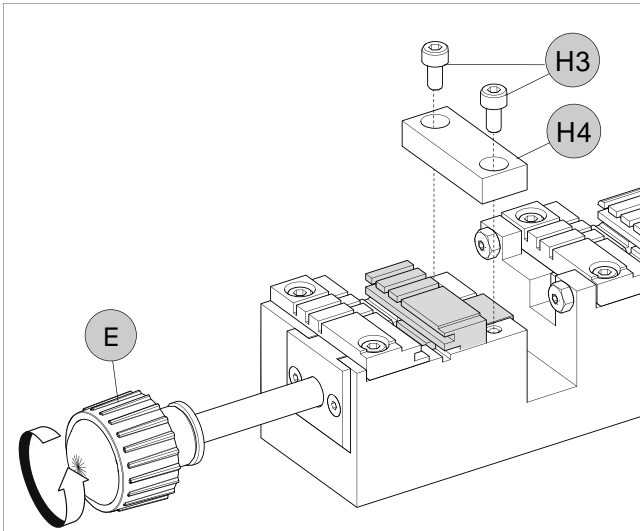

Fig. 64
- 1) Fully unscrew the knob (E).
- 2) Loosen the 2 screws (H3) and remove the plate (H4) (Fig. 64).